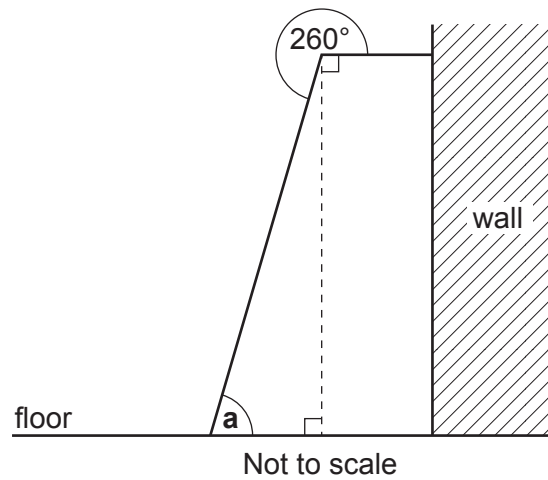

Fig. 3
- (a) **Fig. 3** shows a simplified side view of the frame of the shelving unit when it is fixed to a wall.